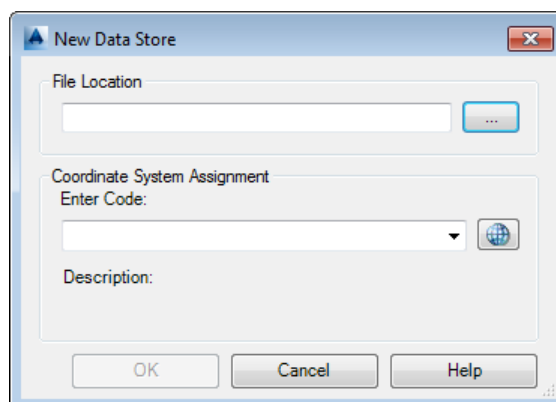

Figure 2-32 The **New Data Store** dialog box
3. From this pop-up menu, choose the **New Survey Data Store** option; the **New Data Store** dialog box is displayed, as shown in Figure 2-32.